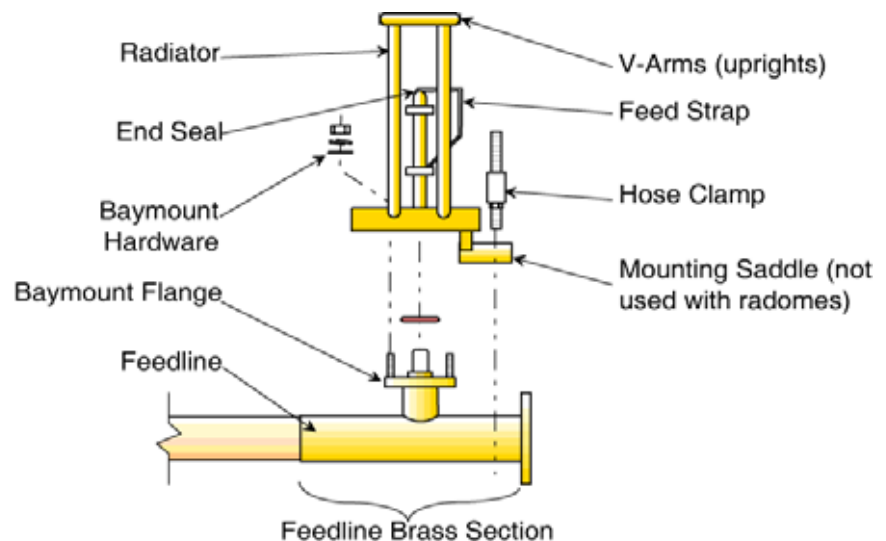

Figure 2. Radiator Installation, exploded view
| Figure 2 | Radiator Installation, exploded view | 4 |
- i. Carefully place the radiator over the flange studs (see Figure 2), and slipping it over the inner conductor connector.